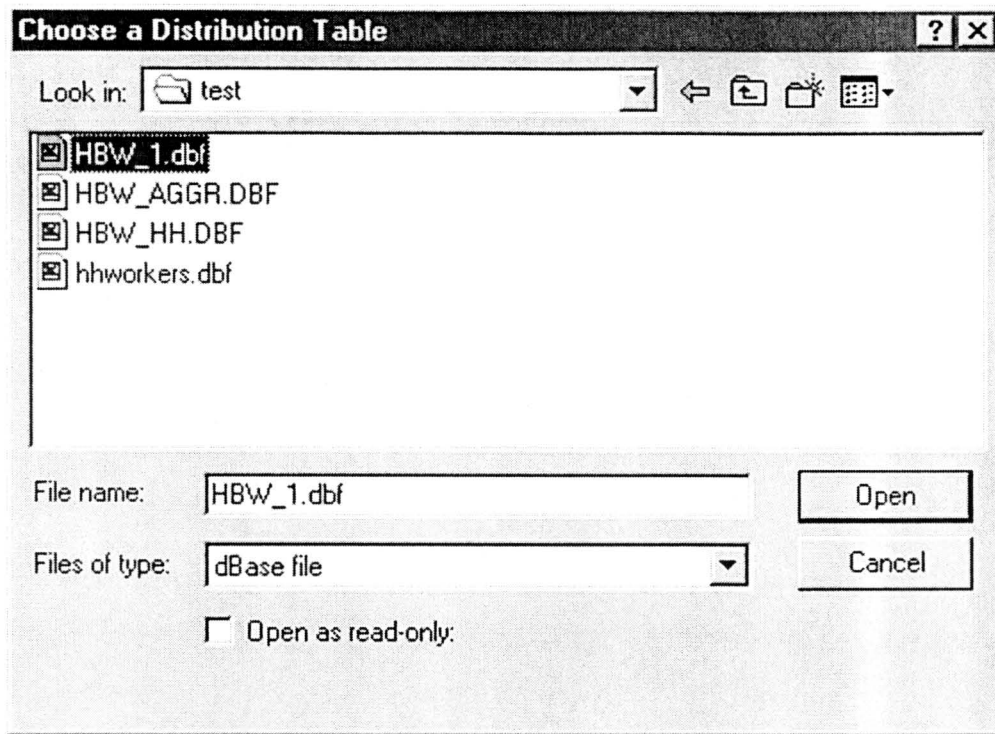

Figure II-2. Open file window
3. After the add-in procedure is activated, an open-file window (as shown in Figure II-2) will pop up. First, select a household demographic distribution table (e:\Trip Generation\hbw\householdworkers.dbf) and click “open”; then, select a model coefficient table (e:\Trip Generation\hbw\hbw_1.dbf) and click “open”;